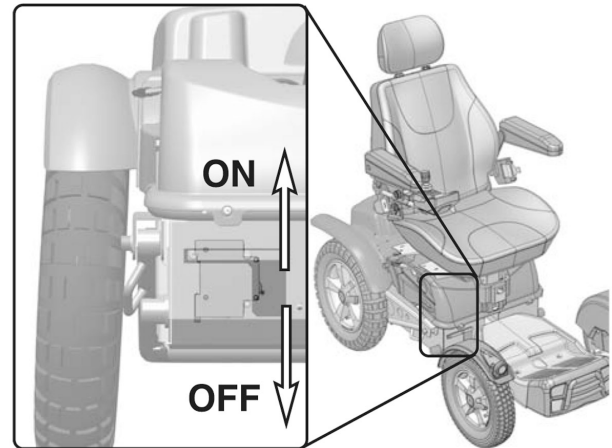

Figure 11. Main fuse/battery isolator (On/Off)
2. Switch off the power supply using the ON/OFF key on the control panel and switch the automatic main fuse to Off. It is accessible via a recess on the chassis. See fig. 11.
5. Switch the automatic main fuse to ON. It is accessible via a recess on the chassis. See fig. 11.